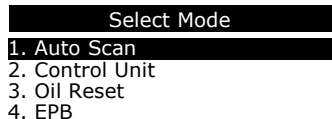
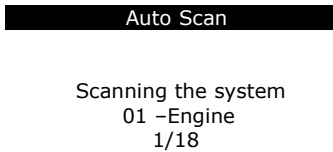
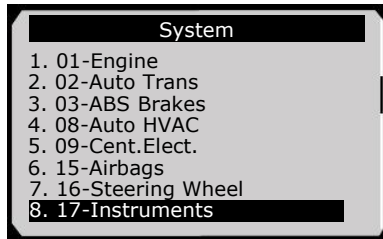

Figure 6.1
Figure 6.2
Figure 6.3
6. From **Select Mode** screen(Figure 6.1), use **UP/DOWN** scroll button to select **Auto Scan**, and press **OK** button. Wait for a few minutes until the following screen shows as Figure 6.2. The screen continually changes according to the detecting system. Finally, it will display all detectable systems available in the vehicle as Figure 6.3.
**NOTE:** The screen will display an estimated number of the detectable systems of the vehicle (eg.18 in the 1/18 of Figure 6.2) according to ECU response at first, but the number of the systems displaying in the **System** screen may be less than the primary estimated number due to various vehicle configuration or vehicle modification.